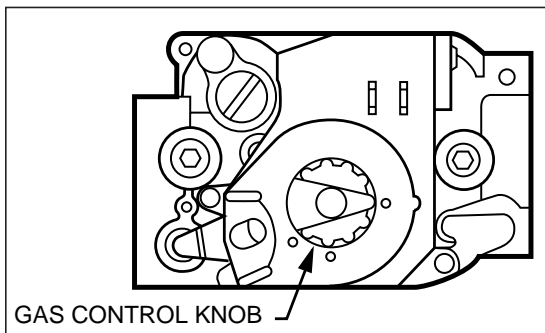

Figure 30. Direct Ignition Gas Valve - Honeywell
- lever cannot be placed in the "OFF" position unless it is pushed in slightly. **DO NOT FORCE** (See Figures 30 & 31).
- f. Wait ten (10) minutes to clear out any gas. If you smell gas, **STOP!** and follow step "d" in the SAFETY INFORMATION section. If you do not smell gas, go to the next step.
NOTE: The lever cannot be placed in the "OFF" position unless it is pushed in slightly. DO NOT FORCE (See Figures 30 & 31).